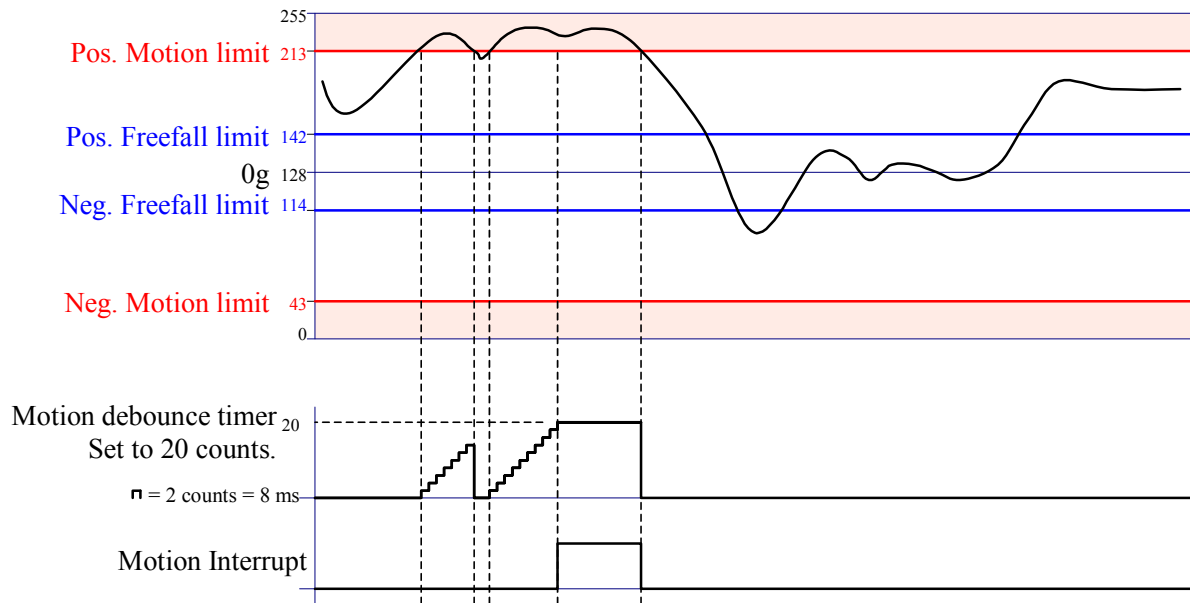

Figure 6. Typical Motion Interrupt Example (MOTLatch = 0)
When the registers are loaded with the recommended values and the MOT Enable pin (12) is pulled high, the KXPS5 becomes armed for HDD protection. This means that the FF/MOT interrupt will be triggered if the accelerometer experiences an event that exceeds any of the above described thresholds and delays. In this case, FF/MOT will go high if all accelerometer axis (X, Y, and Z) simultaneously drop below 0.4g for more than 80mS or if any accelerometer axis (X, Y, or Z) go rise above 2.5g for more than 80mS. Figures 6 and 7 show how the KXPS5 interrupts will react to a typical event.